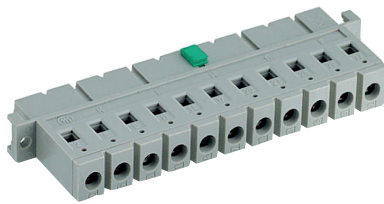

Fig. 22
- Code key system for connector coding. Coding wedges HZZ00202-G (5 pieces); see fig. 22.